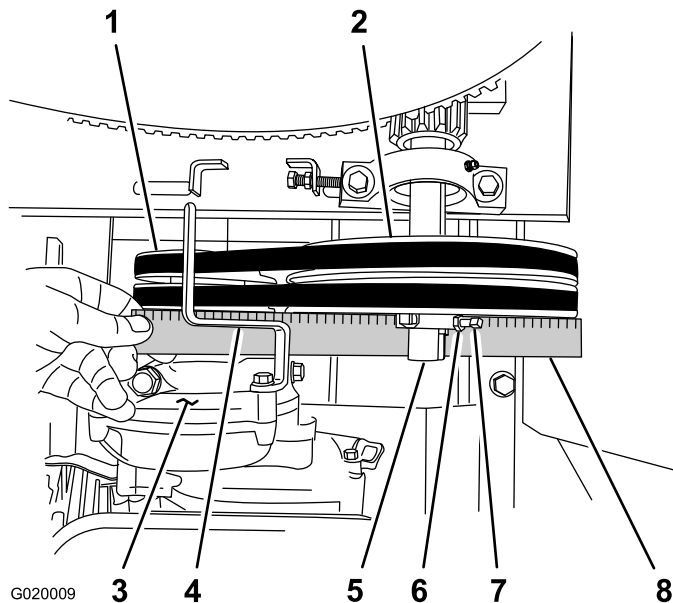

Figure 56
- D. Align a straightedge across the engine pulley and the idler pulley (Figure 56).
- E. If needed, pivot the engine on the engine deck until the engine pulley and the idler pulley are aligned to the straightedge (Figure 56).